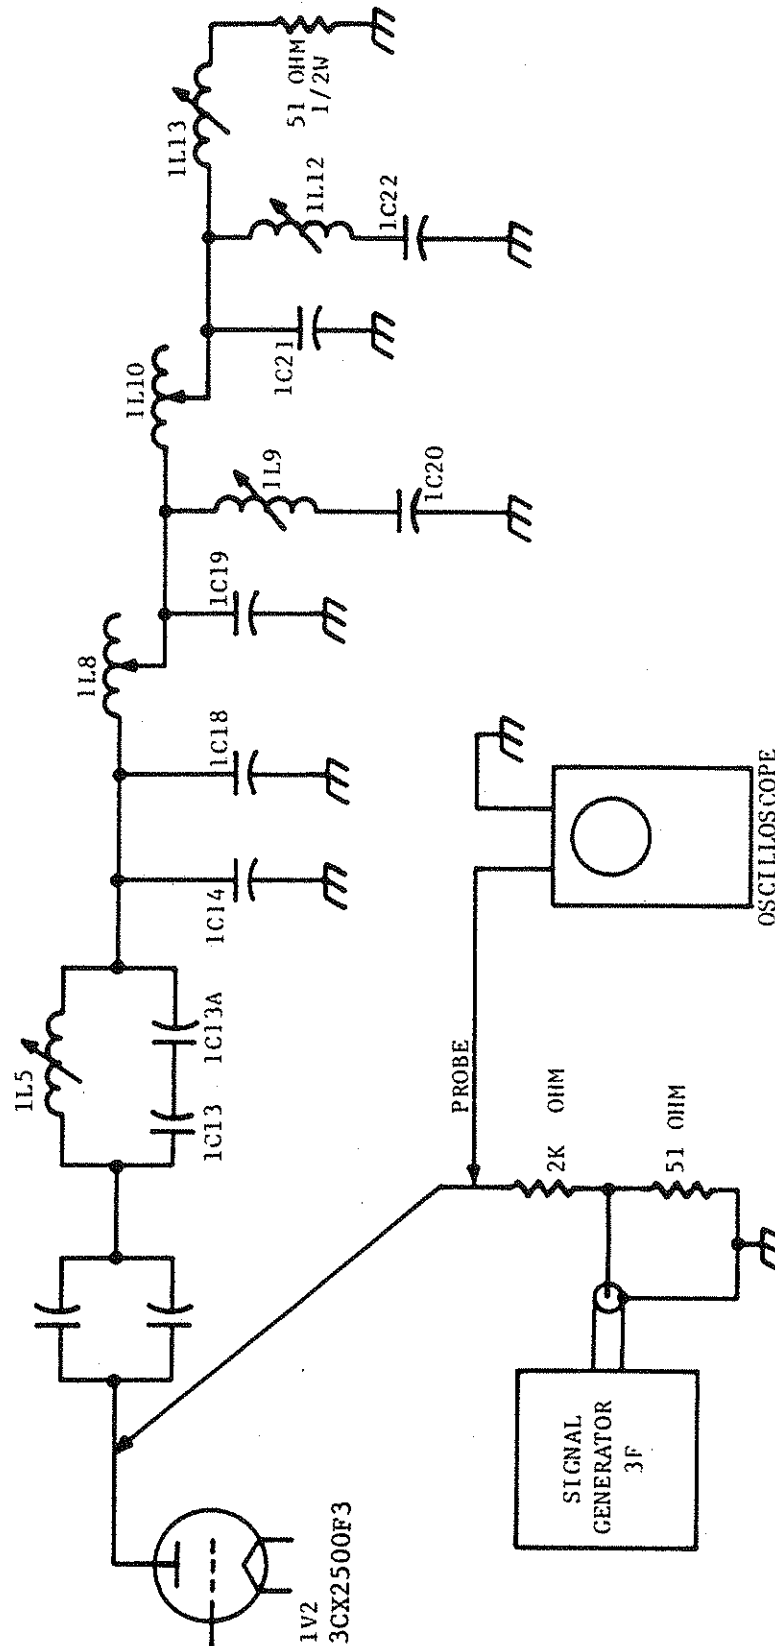

Figure 5-3. Setting 3rd Harmonic Resonator
5-53. Connect the impedance measuring equipment between the anode of the PA tube and ground. Refer to figure 5-3. Tune the signal generator to three times the carrier frequency (3F). With at least one-half the turns of coil 1L8 active, adjust plate resonator coil 1L5 for antiresonance (parallel resonance) at the 3rd harmonic at the plate of the PA tube.
- e. Refer to figure 5-3 and connect the test equipment as outlined.